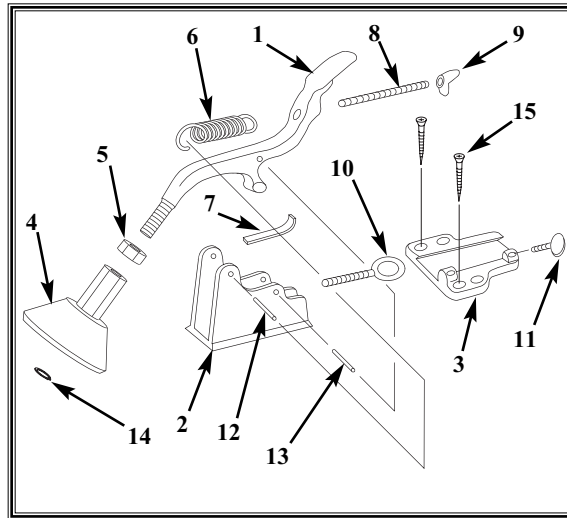

Figure 4. Board Buddy Parts.
3. Depress the pivot arm (1) and remove the shoe (7). Clean out any foreign material that is preventing the shoe from sliding inside the housing (2). See **Figure 4**.
Use **Figure 4** and the parts list to inventory your package. Your new BOARD BUDDIES® are carefully packed. However, if any part is damaged or missing, contact Woodstock International Service and Support at 1-360-734-3482 or send e-mail to: tech-support@shopfox.biz.
To assemble your BOARD BUDDIES®, see **Figure 4** for item numbers and do these steps: